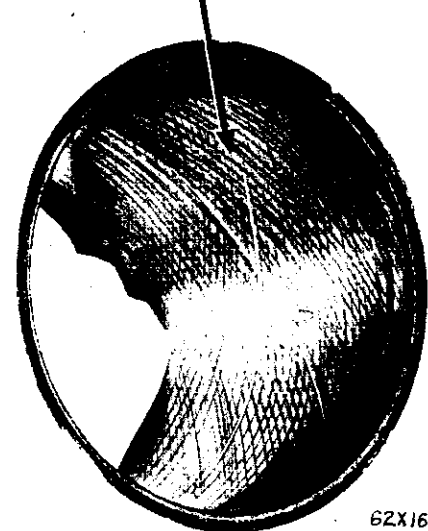

Fig. 40—Cross-Hatch Pattern
(3) Honing with Tool C-3501 should be done by moving the hone up and down fast enough to get a cross-hatch pattern. When hone marks intersect at 60°, the cross hatch angle is most satisfactory for proper seating of rings (See Fig. 40).
(4) After honing, it is necessary that the block be cleaned again to remove all traces of abrasives. Wash the cylinder block and crankshaft thoroughly.